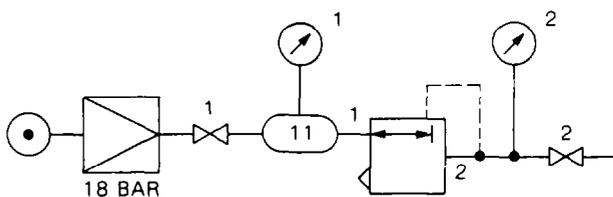

Figure 104 Test Connections
131. Assembly. Assemble the pressure limiting valve as follows (see Fig 104):
- a. Connect the valve to an 18.0 bar pressure source as shown in Fig 104.